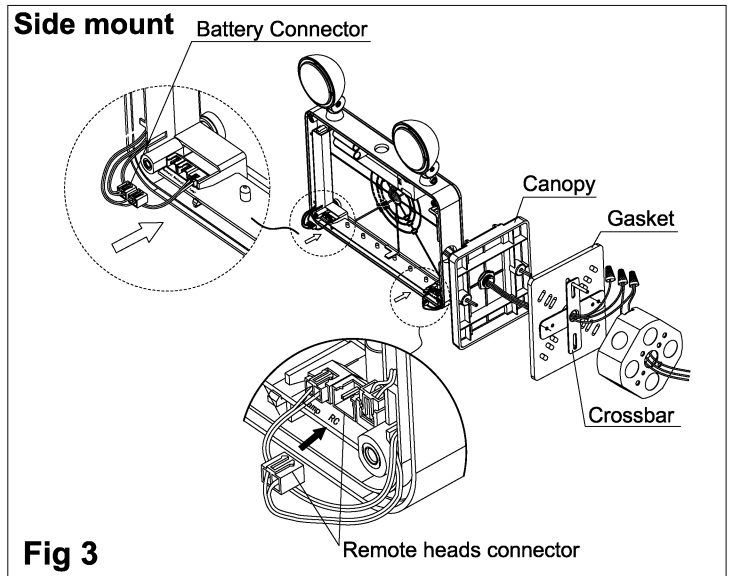

**Fig 5**
4. Knock out the mounting hole on the top or side of the unit, assemble the canopy on the unit (see Fig 5).